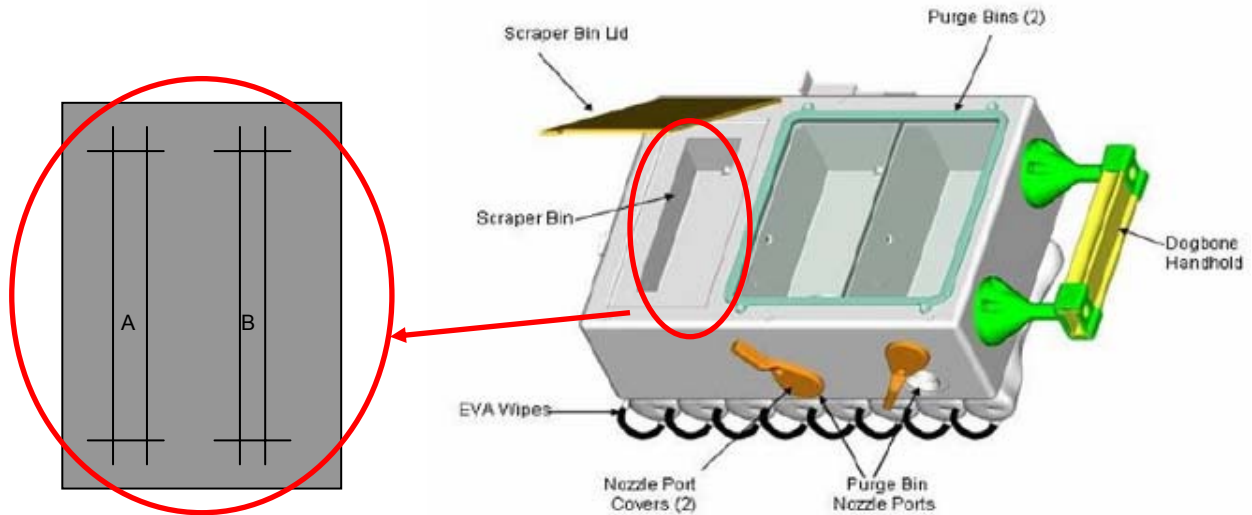
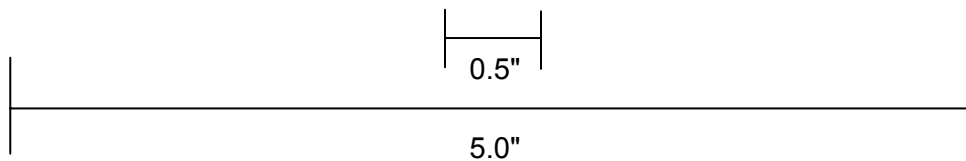

Figure 1 - CIPA Discard Container (CDC)
Figure 2 - Line Template
3. Apply 2 pairs of 2 lines spanning the width of the scraper bin (figure 1), placing lines within pairs 0.5" apart (using template below in figure 2)
4. Add tick marks on each line (figure 2), 5" apart (using template below in figure 2)
5. Add label 'A' and 'B' in middle of lines (figure 1)